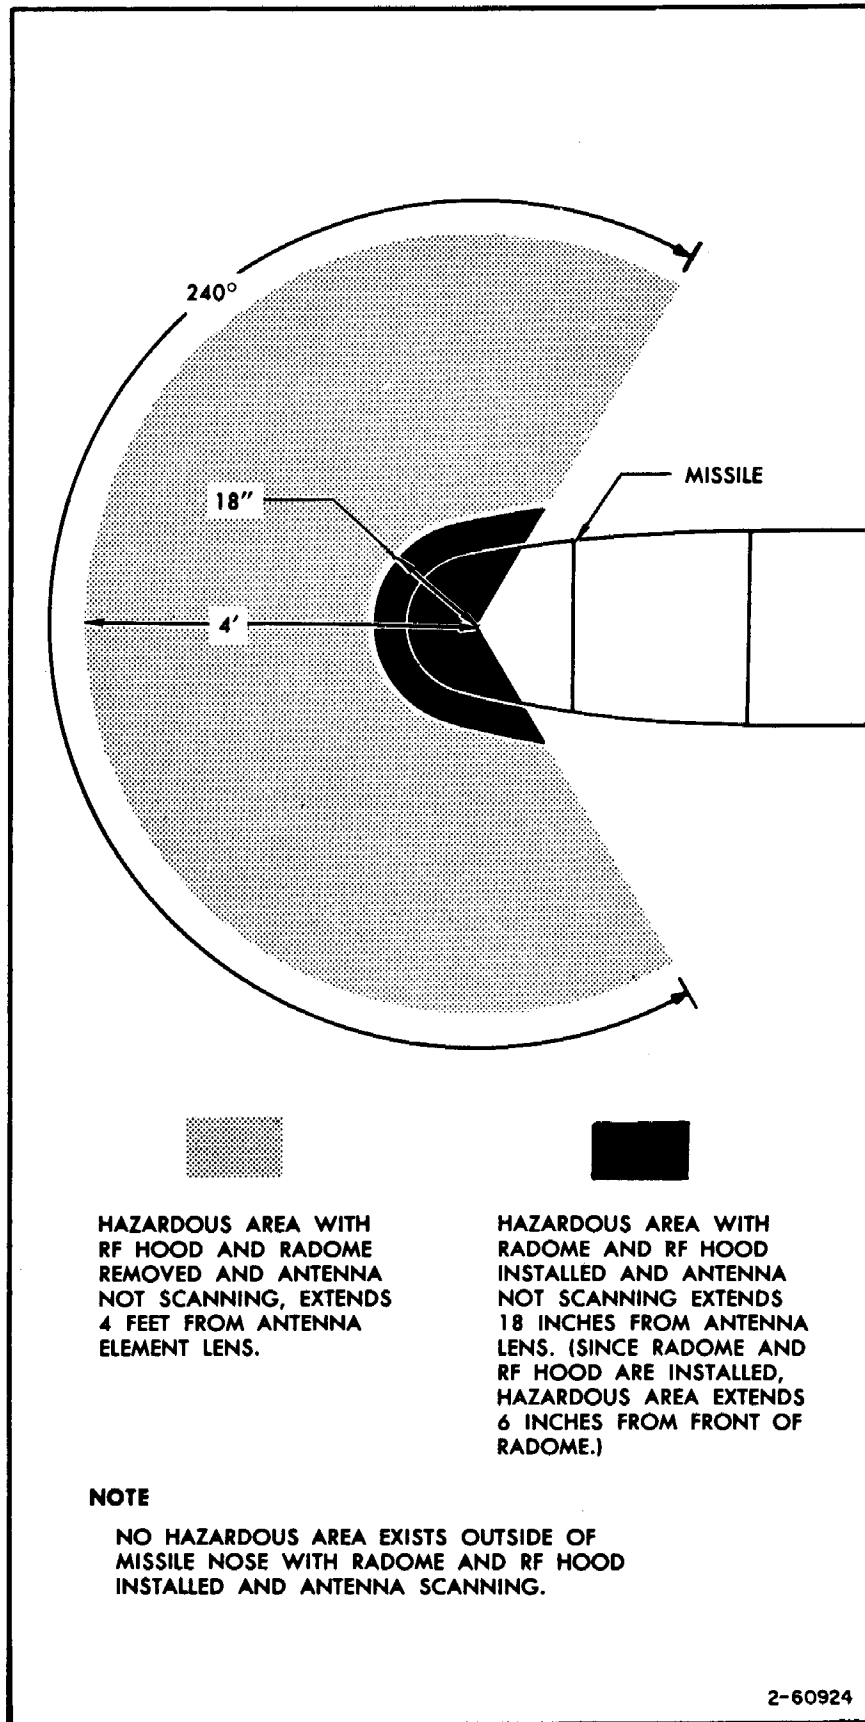

Figure 1-6. RF Hazard Area
h. Insure that all personnel observe the RF Hazard Area. (See figure 1-6.)